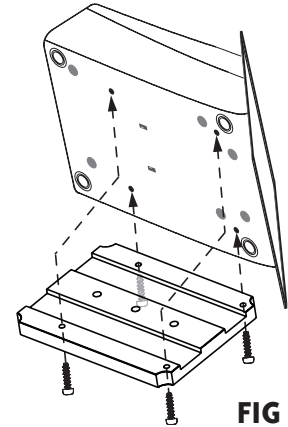

FIG 1
1. Attach mounting plate to bottom of unit using the 4 screws. See FIG 1